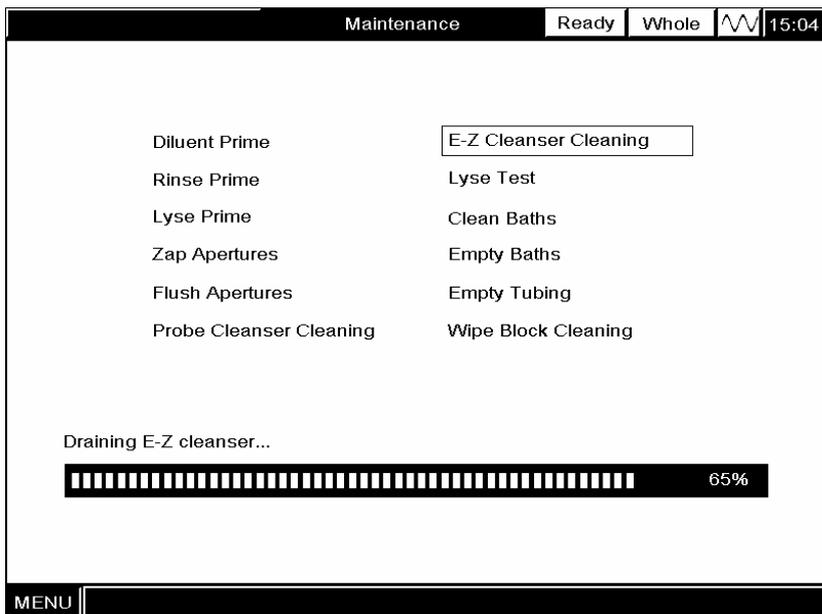

Figure10-14 Draining the baths and fluidic lines
4. When the cleaning is done, press [ENTER] to drain the baths and fluidic lines, as Figure10-14 shows. When the draining is done, the screen will display “**E-Z Cleanser Cleaning End**”.